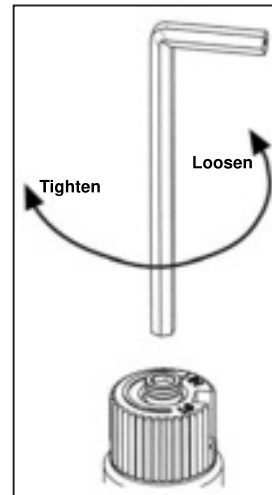

Figure 21: Removing valve screw.
- c) Insert a $\frac{5}{32}$ " or 4 mm Allen wrench into the hexagonal key-way of the screw (see Figure 21), rotate it counter-clockwise until it is free and extract it.
- f) Using the Allen wrench as shown in Figure 21, rotate the screw clockwise until a torque of 9 inch lbs. **WARNING!** Do not over tighten the screw. It is recommended that you grip the wrench by the short side.